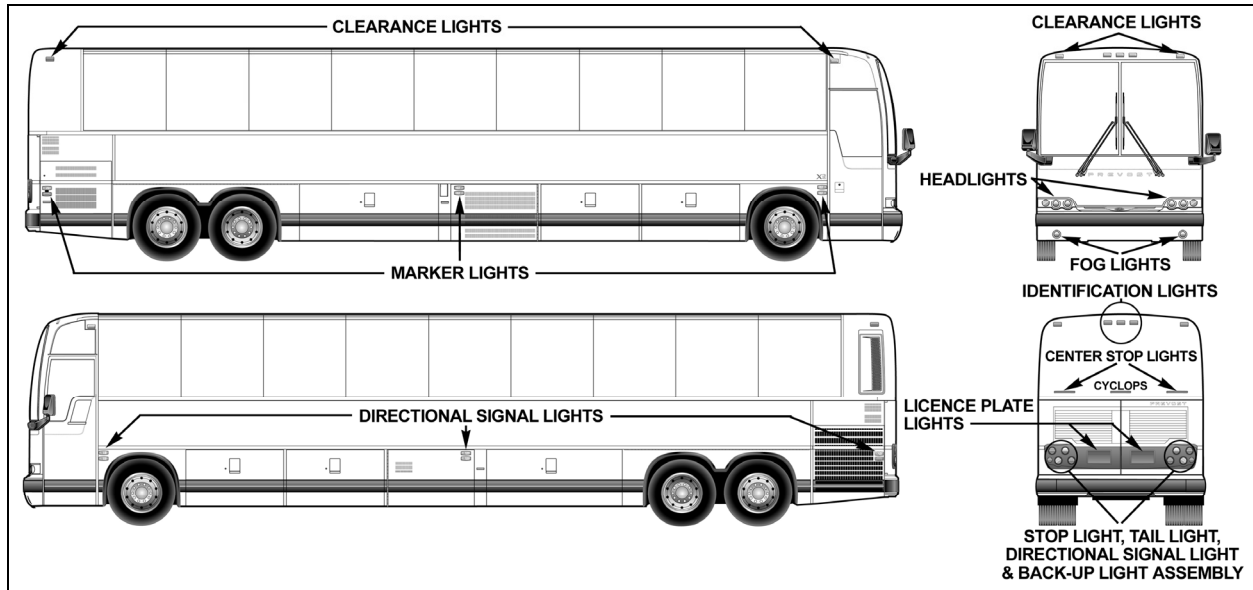

FIGURE 33: VARIOUS LIGHTS LOCATION
3. To install a new switch, reverse the procedure (Fig. 33).